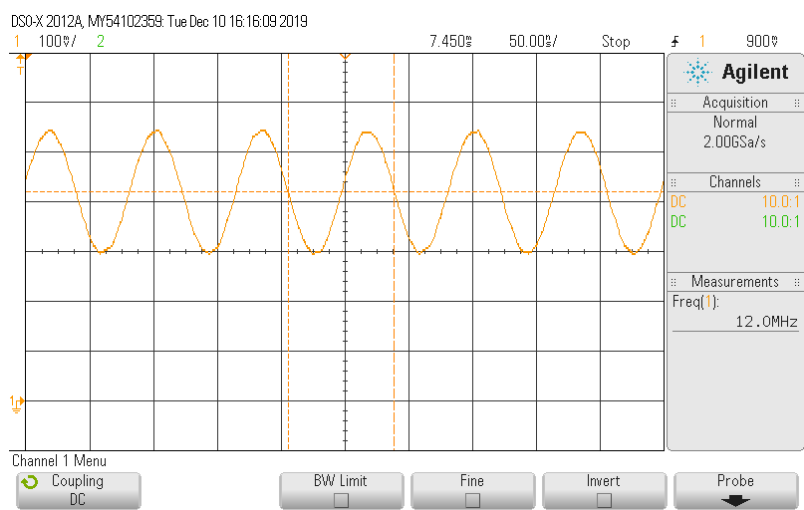

Figure 10.4: 12 MHz clock sine wave measured on the XOUT pin.
1. Connect a scope pin to the XOUT pin. A 12 MHz sinewave should be visible, see Figure 10.4.